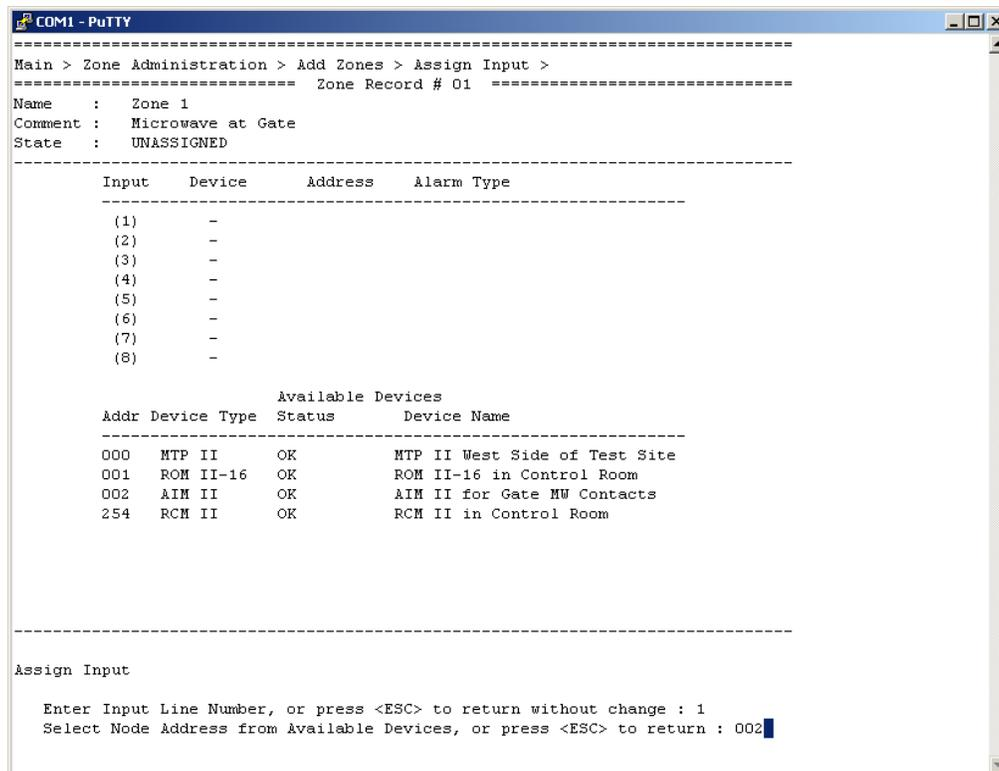

Figure 32 – Available Input Devices Screen
Once the input line number(s) has been selected, a prompt will be displayed to select a device address from the Available Devices list as shown in Figure 32. Only Discovered Devices that have assignable inputs will appear in the list. Input the three (3) number node address and press enter.